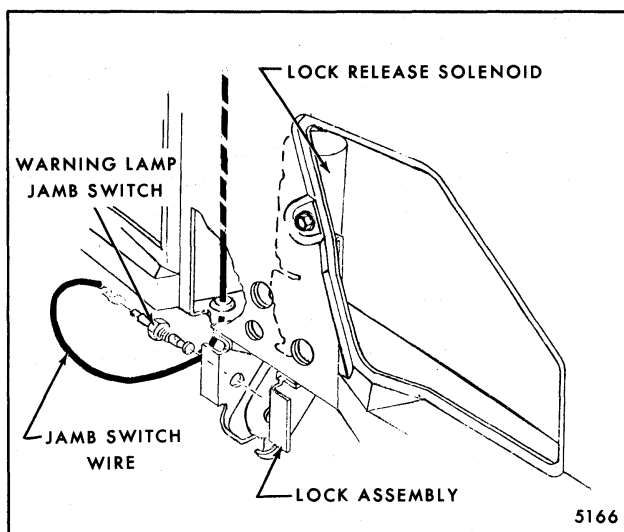

Fig. 7-91-Tailgate Warning Lamp Jamb Switch
2. Disconnect wire harness terminal from warning light jamb switch on lock assembly (Fig. 7-91).
A grounding type jamb switch is mounted to the tailgate lock assembly. Its function is to complete an electrical circuit for the instrument panel warning light when the tailgate lock is in any position other than fully locked (primary lock position) provided the ignition is "ON" (Fig. 7-91).